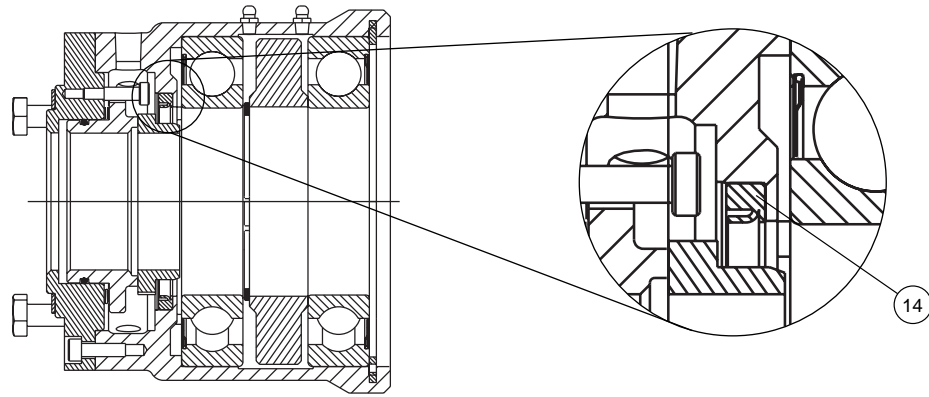

Figure 1
**If equipped,** tap out the lip seal (14) from the body using a screwdriver. Clean and dry the inside of the body. See Figure 1.
Press new lip seal into the body. Use a piece of pipe or tubing to press in the lip seal that will apply pressure only to the metal OD of the seal. See Figure 1.